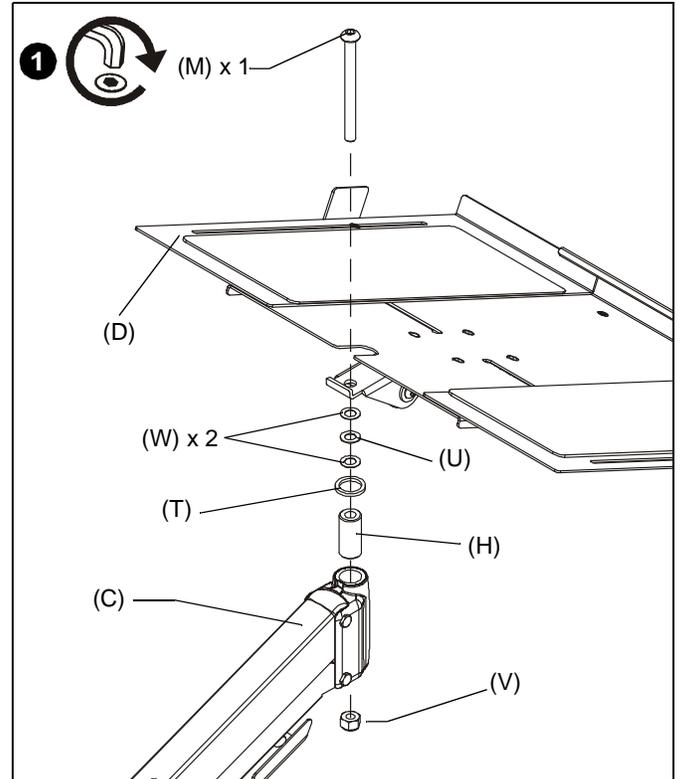

Figure 6
- Attach laptop tray assembly (D) to height adjust assembly (C) using one 5/16-18 x 3-1/2" button head cap screw (M), two .018" spacers (W), one UHMW washer (U), one pivot pin (H), one UHMW washer (T), and one 5/16" nylon lock nut (V). (See Figure 6)